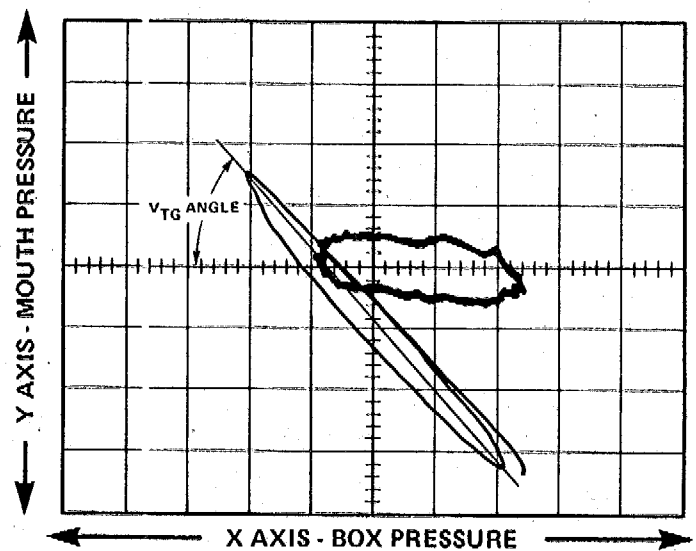

Figure 30 - Measurement of  $V_{TG}$  Angle
B.14. Refer to Figure 30. Using the graticule, record the VTG angle (or  $\tan VTG$ ) for calculations. Photograph the trace if desired.